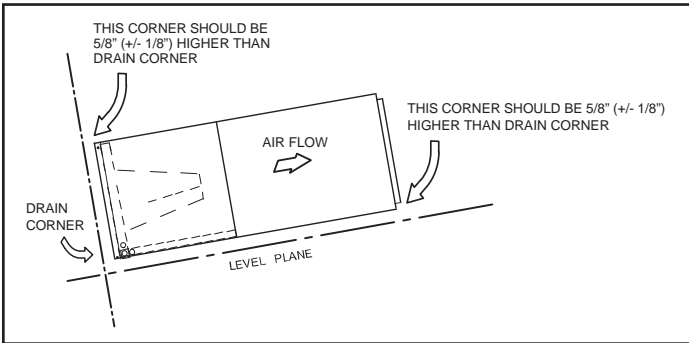

Figure 5. Sloping the Unit
3. Set unit so that it is sloped toward the end of the unit with the drain pan (see figure 5).